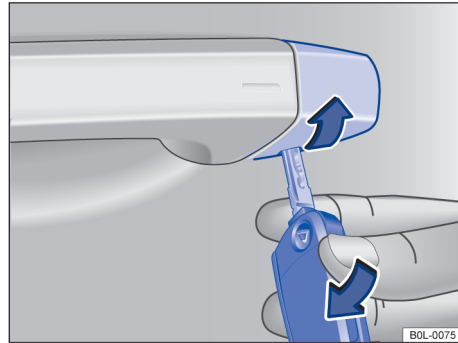

Fig. 46 Driver door handle: pry up the cover
- Use the vehicle key to pry up the cover in the direction of the arrow → Fig. 46.